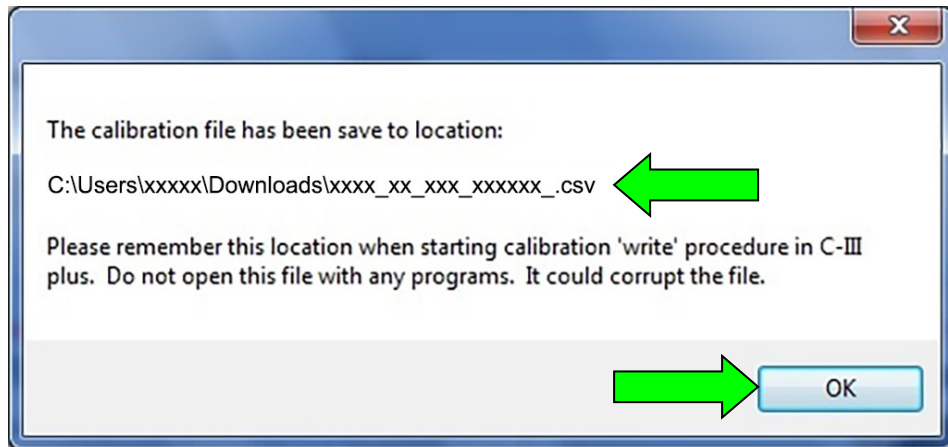

Figure 30
- If the pop-up shown in Figure 30 displays: